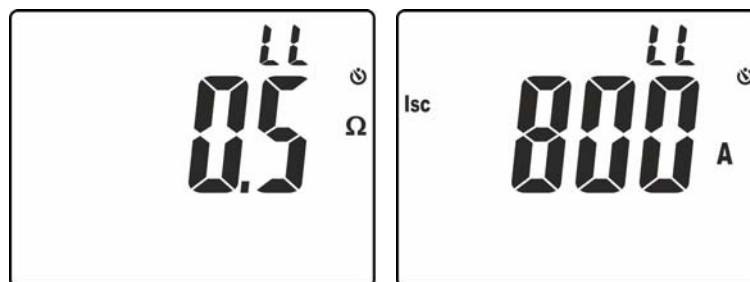

Fig. 28: Results of Loop L-L impedance measurement
12. The screen in Fig. 28 – left side, shows the value of Loop L-L impedance. Press keys $\blacktriangledown/\text{H}$ or \blacktriangle to display the value of the assumed short-circuit current **Isc** (see § 9.3)